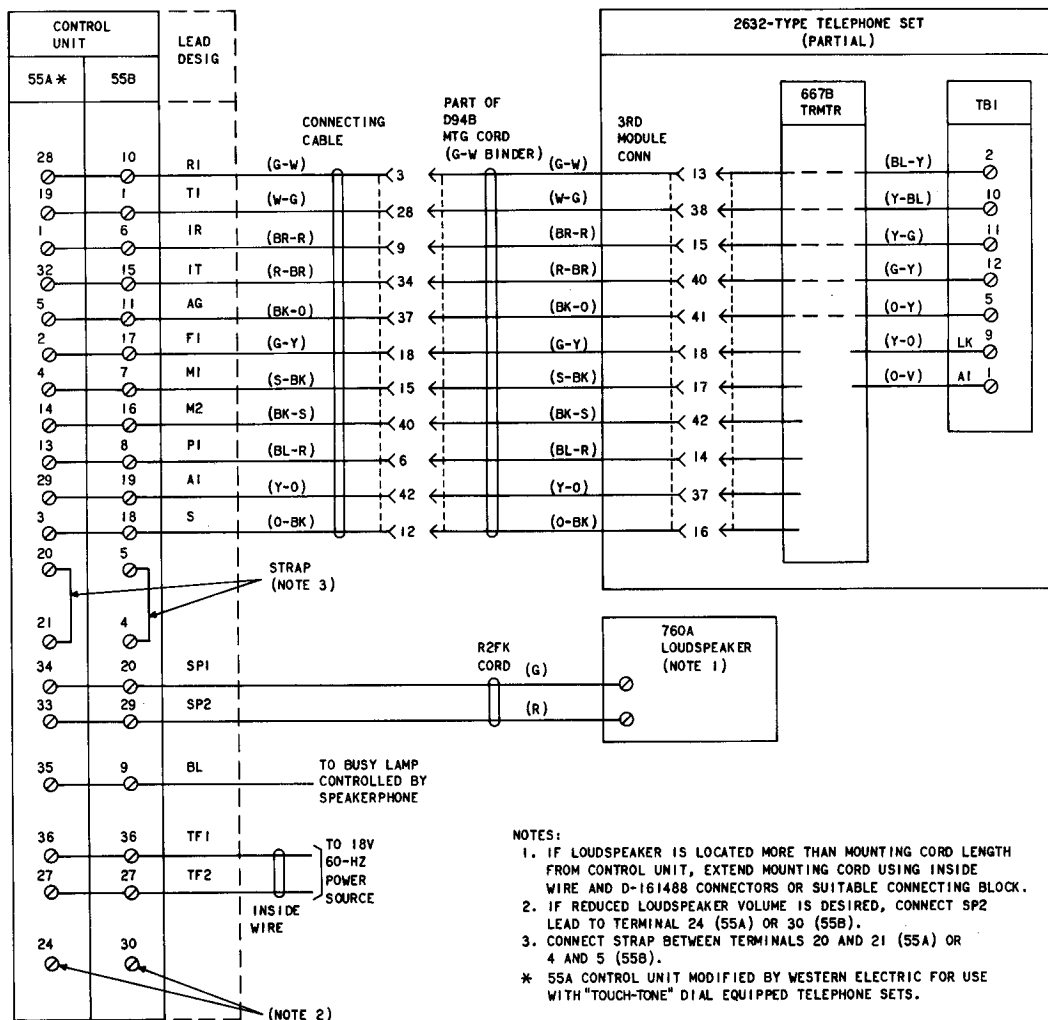

Fig. 3—2632-Type Telephone Set, Connections to 3-Type Speakerphone System
- (1) Remove telephone set faceplate, mat, and housing. See Section 502-600-100 for procedures.
- (2) Remove key unit or apparatus blank in right-hand module position and plug in a 667B transmitter (ordered separately).
- (3) Connect transmitter spade-tipped leads as shown in Fig. 1 for 632-type, Fig. 2 for 1632-type, and Fig. 3 for 2632-type.
- (4) If a 632-type set is equipped with 8R dial, replace with 8C dial (ordered separately).
- (5) Install housing using reverse procedure.
- (6) Install new faceplate and mat (ordered separately) in which transmitter cutouts are provided.